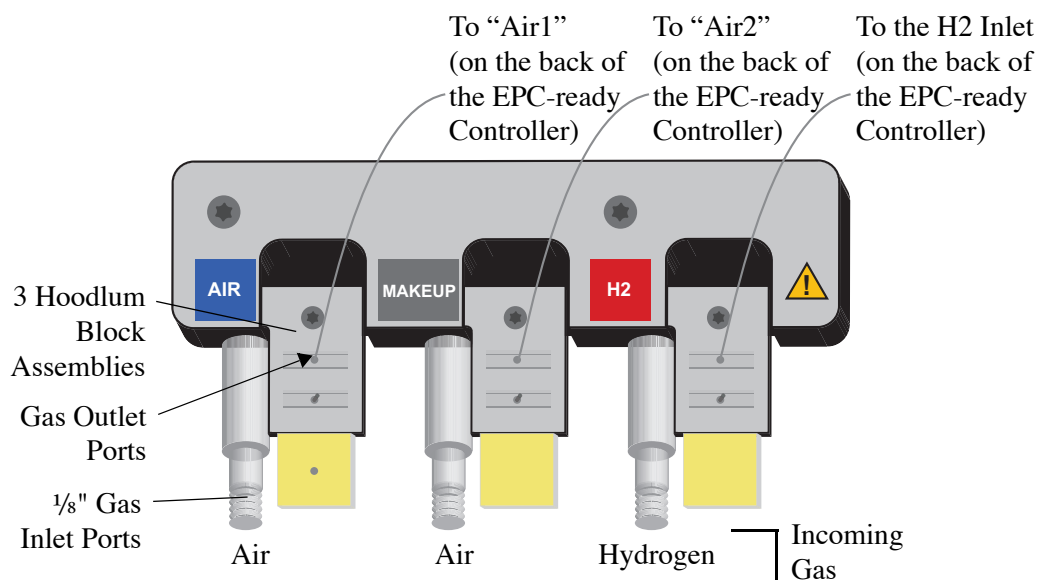

Figure 4.26. OIM Module Plumbing
- k. Connect the gases (see Figure 4.26).